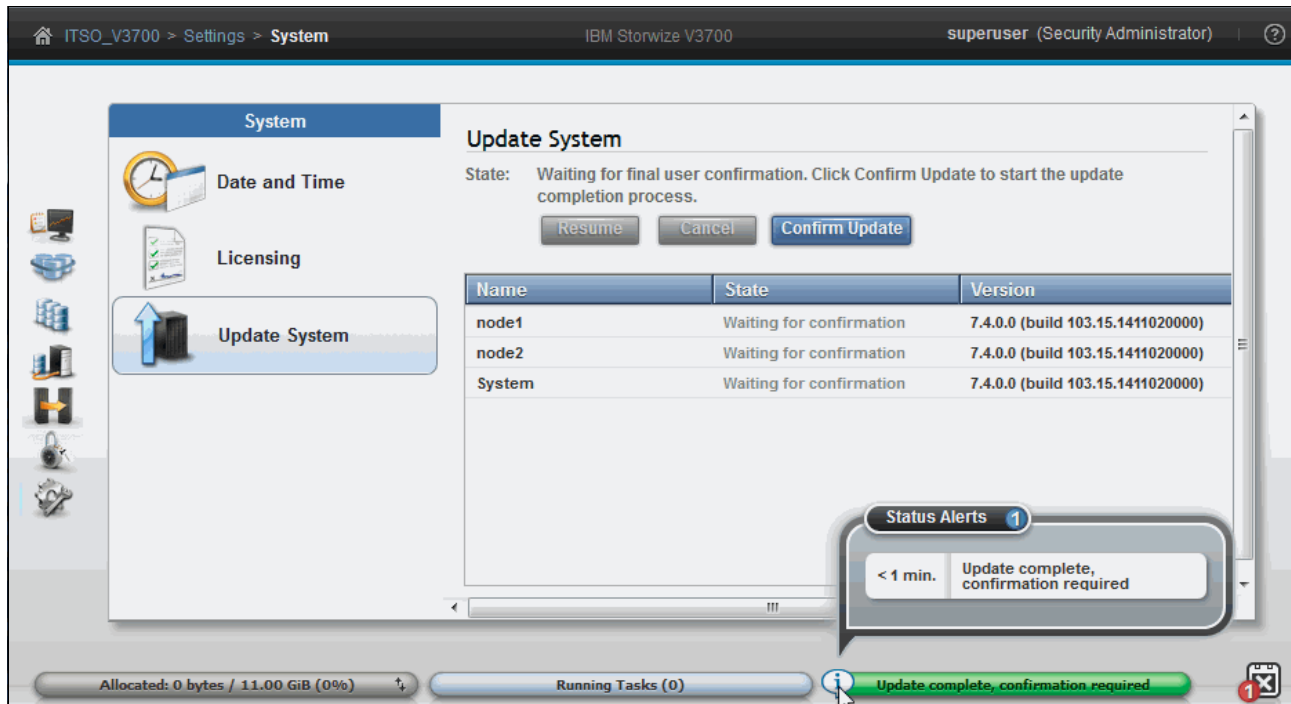

Figure 11-49 Update System: Confirm Update
18. If the canister software is updated to Storwize software V7.4 from V7.3 or lower, an extra confirmation step is included. Click **Confirm Update** to proceed as shown in Figure 11-49.